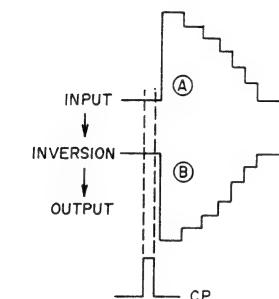

Fig. 34
With only the inversion circuit involved, there will be no output if ⑧ is clamped by CP as illustrated in Fig. 34. The disappearance of the signal can be avoided by clamping with D1 after introduction of HD with TR4.